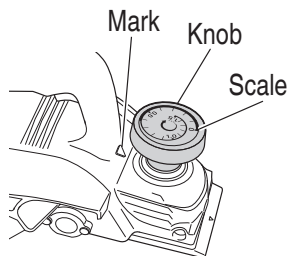

Fig. 5
(1) Turn the knob in the direction indicated by the arrow in **Fig. 5** (clockwise), until the triangular mark is aligned with the desired cutting depth on the scale. The scale unit is graduated in millimeters.
(2) The cutting depth can be adjusted within a range of 0 – 1.5 mm.